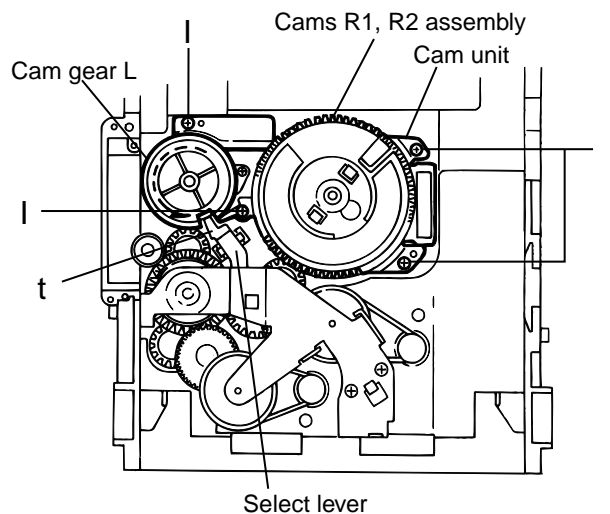

Fig.18
4. While turning the cam gear r, align the pawl "t" position of the select lever to the notch position(Fig.18) on the cam gear r.
5. Remove the four screws I retaining the cam unit(cam gear r and cams R1/R2 assembly)(See Fig.18).